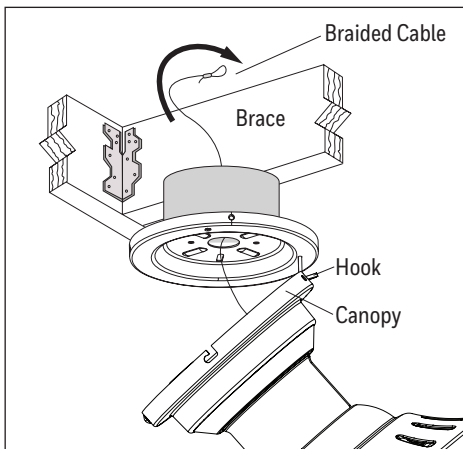

Figure 3.1
1. Raise the fan and place the hole in the canopy on the hook on the mounting bracket. Feed the loop of the braided cable, preassembled to the motor assembly, up through the outlet box mounted in the ceiling (Figure 3.1).